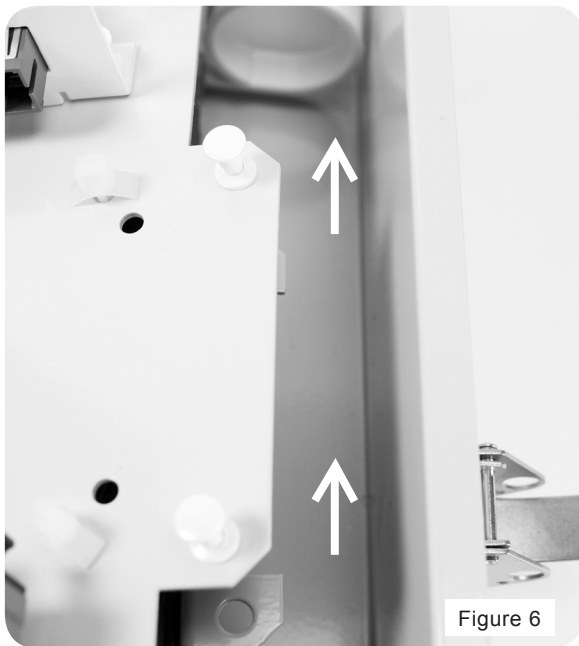

Figure 6
1. To release the interconnect tray, pull up on the two nylatches located on the right side of the tray (**Figure 6**)